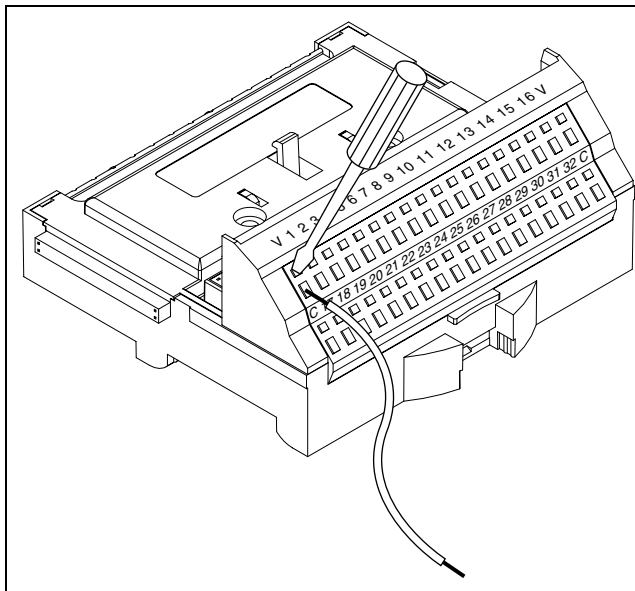

Figure 7. Connecting Wires to the Spring Terminal of an FP-TB-2
1. Insert a screwdriver into the slot directly below the terminal number and push the screwdriver downward into the slot. You may need to push hard. This forces the spring-loaded terminal to open as shown in Figure 7.